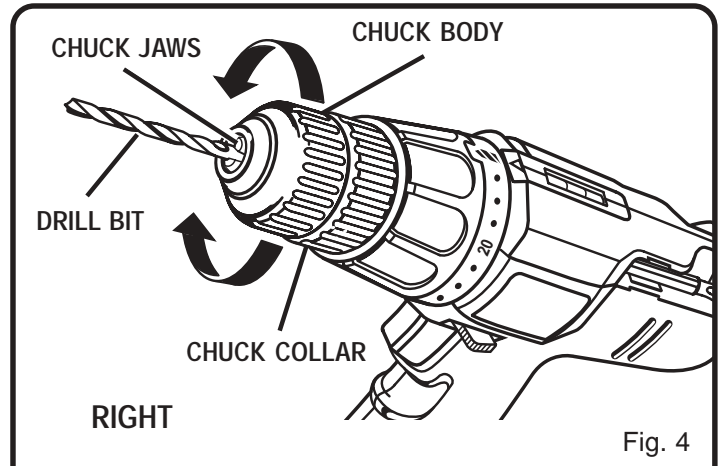

Fig. 4
See Figures 4 and 5.
- Insert drill bit straight into chuck the full length of the jaws. See Figure 4.
See Figure 4.
- Locate latches on side of battery pack and depress both sides to release battery pack from your drill. *See Figure 4.*